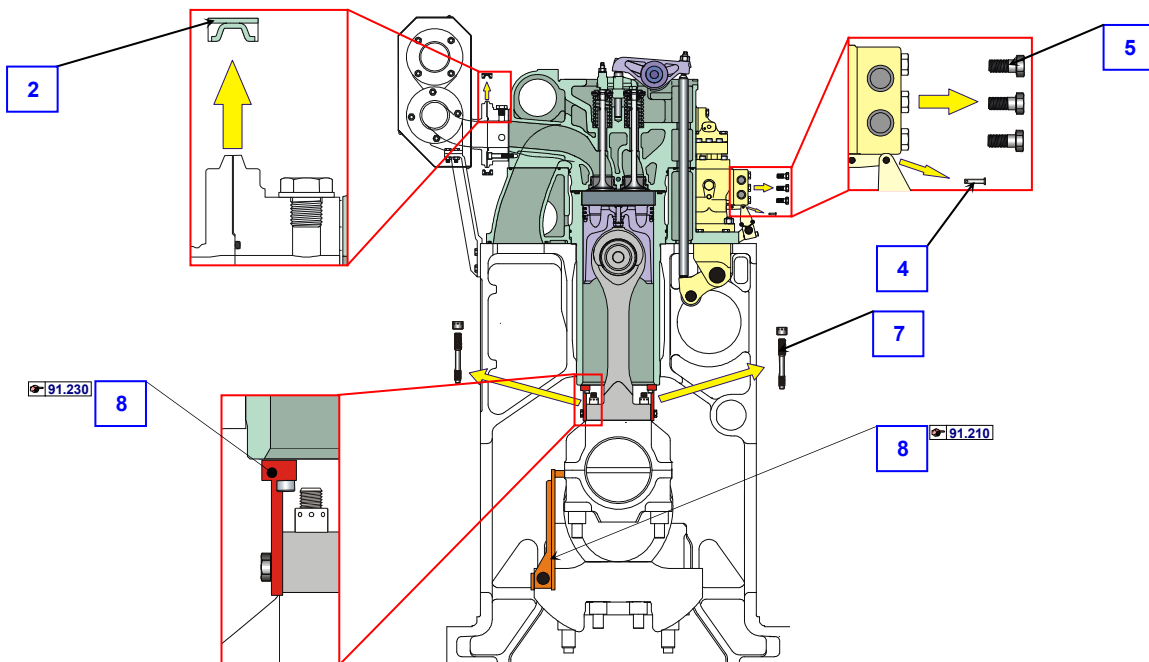

Fig. 2 Mount support device & turning bracket (지지 장치 및 고정구의 설치)
- 4. Disconnect fuel rack and fuel control lever by taking out connecting pin as shown in fig 2.
- 8. Mount turning bracket on the big end part and counter weight, and hang up connecting rod shaft to the bottom of cylinder liner by two support devices as shown in fig 2.